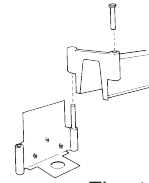

Fig. 1
Step 3: Hang the light fixture on the mounting bracket by inserting the pin located on the right side of the mounting bracket inside the hole located on the right side of the fixture arm (Fig. 1). Fixture should be swung to the right of the mounting bracket at this point, so as not to interfere with the wiring of the fixture.